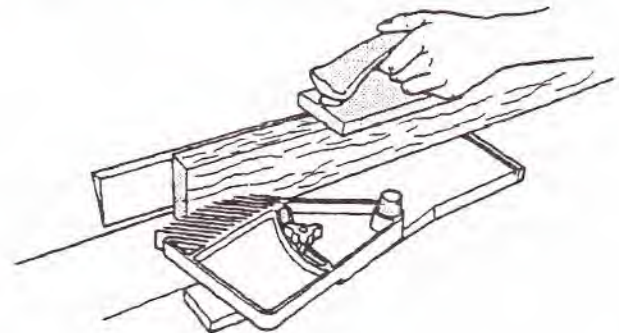

Fig. 23
6. Follow the jointing operations procedures found in the jointer owners manual. Fig. 23 shows the Jointer Feather Guard operating while a board is being joined.